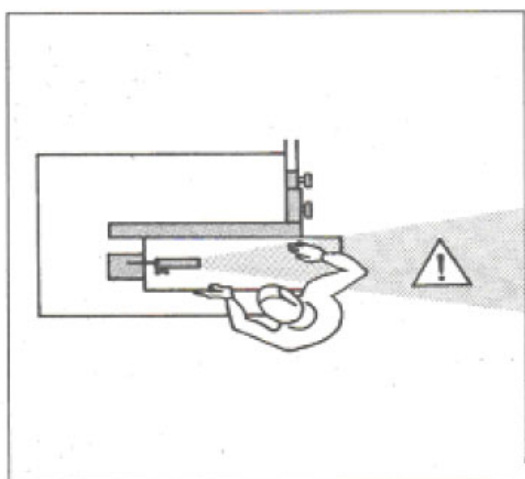

Fig. 16
4. Maintain the recommended working stance and stay out of the danger zone (Fig. 16).